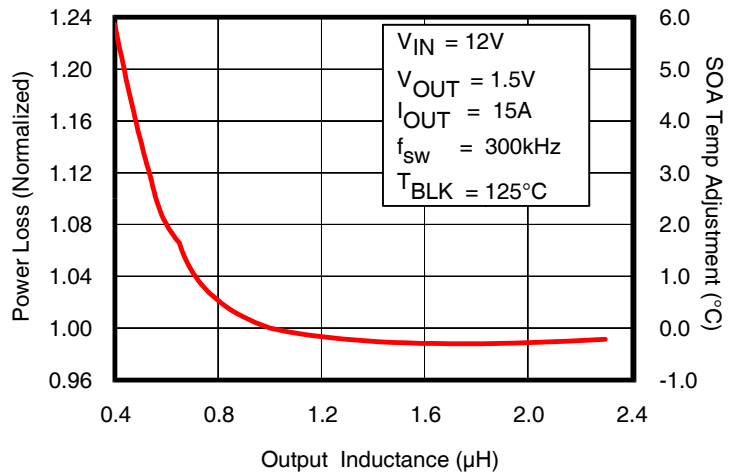

Fig. 7: Normalized Power Loss vs. Inductance
- (Fig. 7) Normalized power loss for inductor value \approx 1.08
- (Fig. 7) Normalized SOA Temperature for inductor value $\approx +2.0^{\circ}C$